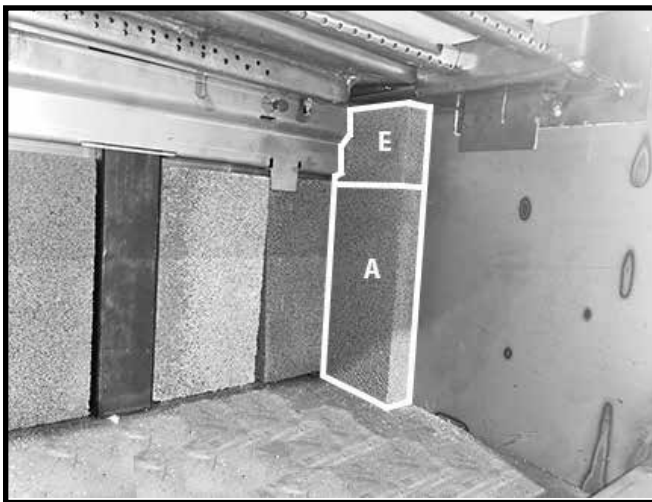

Figure 28: Right side wall E and A brick placement.
3. On one of the side walls, place the "E" brick up into the back corner against the sidewall then insert the "A" brick underneath while holding the "E" brick in place (Figure 28).